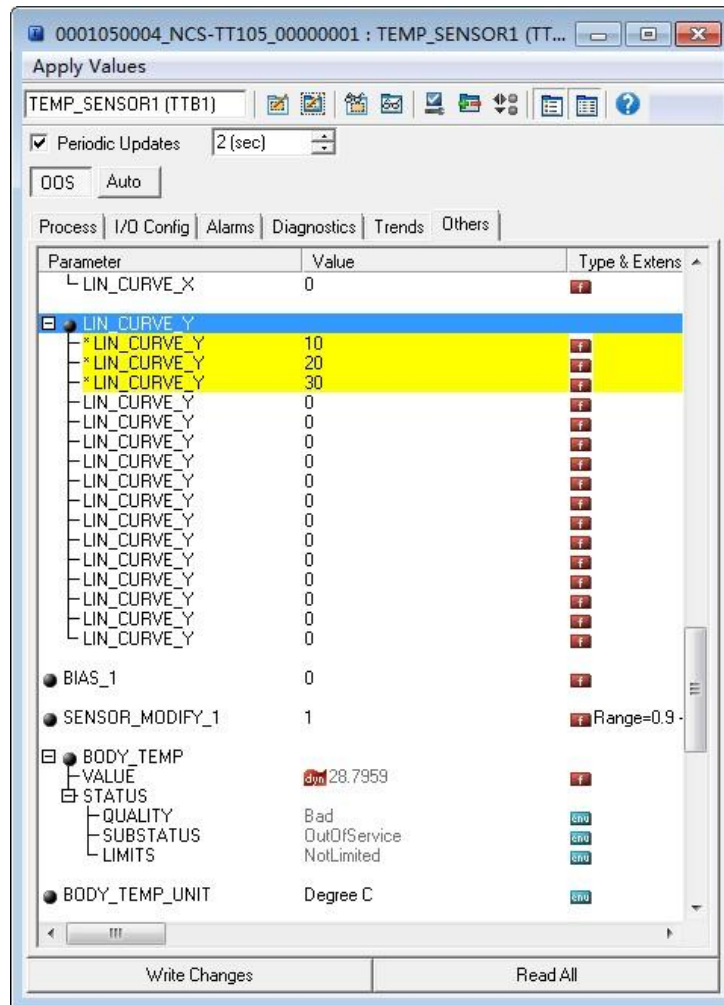

Figure 3.4 CAL_POINT_Y configuration
- 1) The smart temperature transmitter provides 16 calibration point inputs, that is, the parameter `CAL_POINT_Y` array of the transformation block. The user can sequentially write the output values to be calibrated into the array and select a good unit. For example, when performing three-point interpolation calibration, the user can select 10, 20, and 30 as the calibration points, and write these three values in the `CAL_POINT_Y` array in turn, as shown in Figure 3.4.